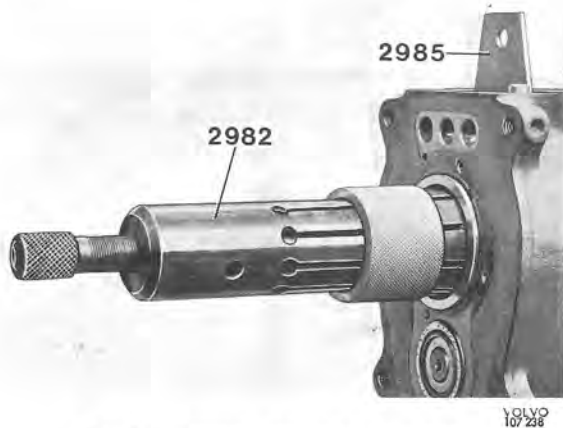

Fig. 4-21. Removing bearing for input shaft
7. Remove the circlip and pull off the bearing for the input shaft with puller 2982, see Fig. 4-21. Remove counterhold 2985.